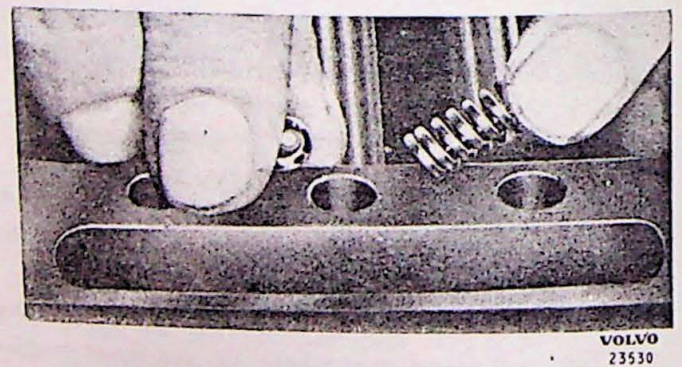

Fig. 3-30. Fitting interlock balls and springs
9. Place the interlock balls and springs in position, Fig. 3-30. Fit the transmission cover. Check that all gears engage and disengage easily.